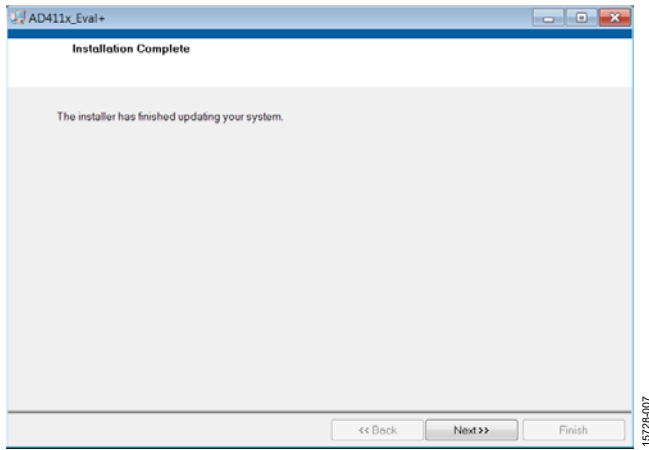

Figure 8. AD411x Eval+ Software Installation: Indicating When the Installation Is Complete
7. The message in Figure 8 appears when the installation is complete. Click **Next**.